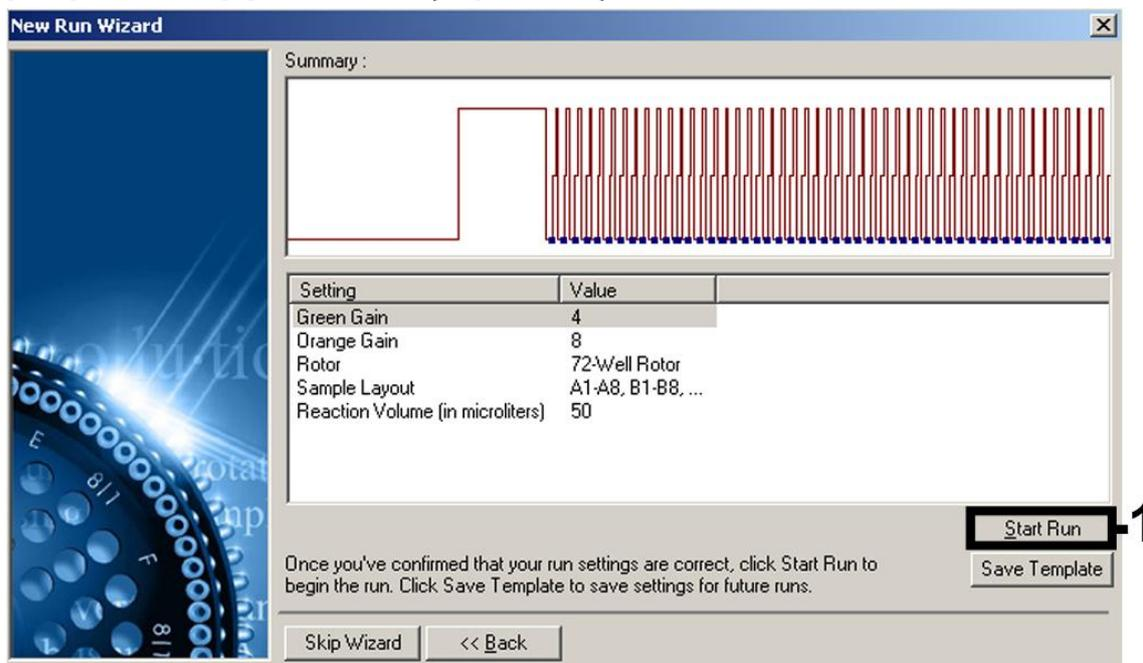

Figure 11. Starting the run. Note that, on the Rotor-Gene 3000, the software will define the fluorescence dyes as “FAM/Sybr” and “ROX”.
Starting the run	Figure 11
10. The gain values determined by the channel calibration are saved automatically and are listed in the last menu window of the programming procedure (Figure 11). Click “Start Run”.